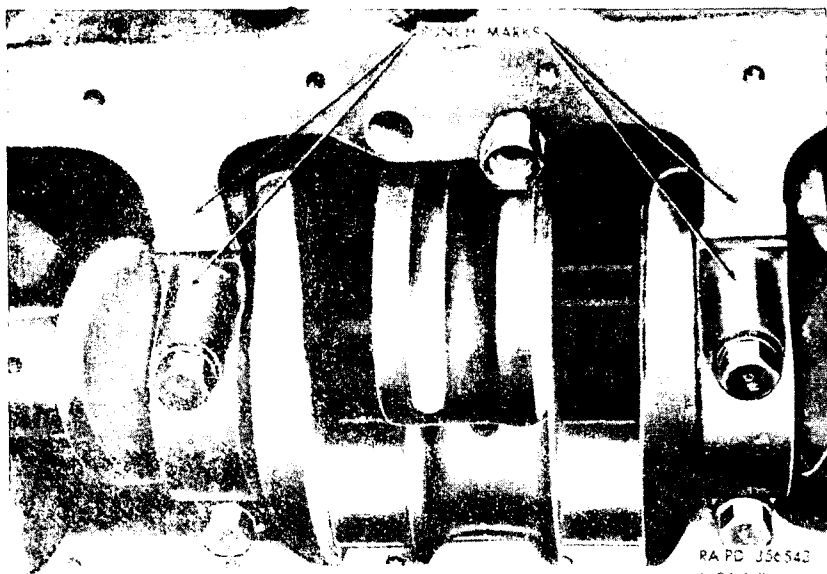

Figure 50. Punch marks on cylinder block and crankshaft bearing caps.
- a. *Remove Crankshaft.* Before removing the crankshaft, be sure to prick punch the two intermediate crankshaft bearing caps and the cylinder block (fig. 50) so that the caps can be installed in their original position. Remove crankshaft (par. 36l). If replacement of the